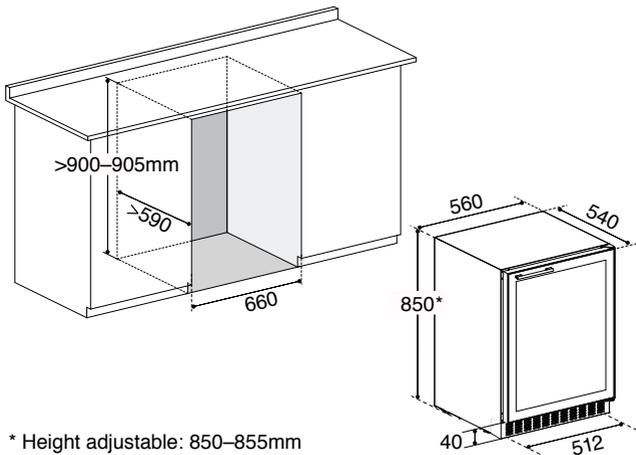

Fig. 1
**Built-in or Freestanding Installation:** Your beverage chiller can be used as a freestanding or a built in unit. The clearances shown in the drawing below (Fig. 1) should be followed for both types of installation.